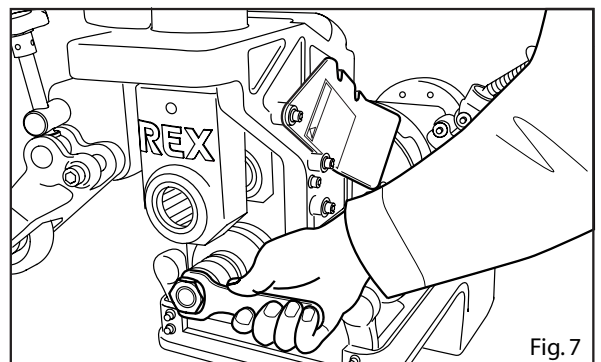

Fig. 7
- 3) Pull out the lower roller by loosening the hexagonal nut on the main shaft and removing the washer. (Fig. 7)